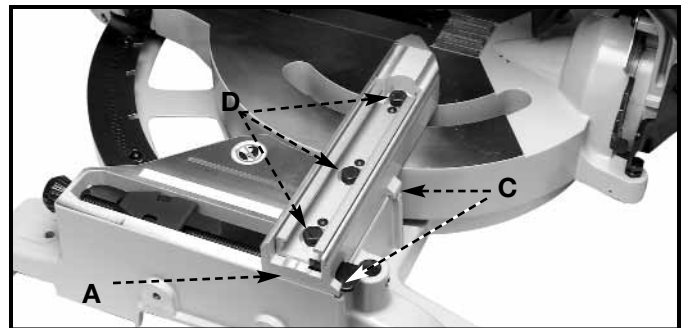

Fig. 16
1. The right fence base (A) Fig. 16 is properly aligned at the factory. However, should adjustment of the right fence be necessary, loosen the bolts (D) and position the base (A) against the shoulders (C). Tighten the bolts (D) securely. **NOTE:** The right side sliding fence segment has been removed for this illustration.